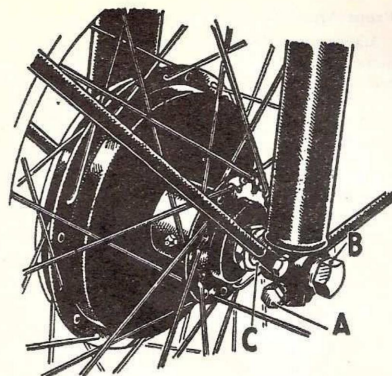

Fig. 16. Removal of front wheel.
2. *The pinch bolt (A, Fig. 16).* The wheel spindle is locked by means of this bolt, which is fitted to the nearside fork leg only. It is only necessary to slacken the pinch bolt.